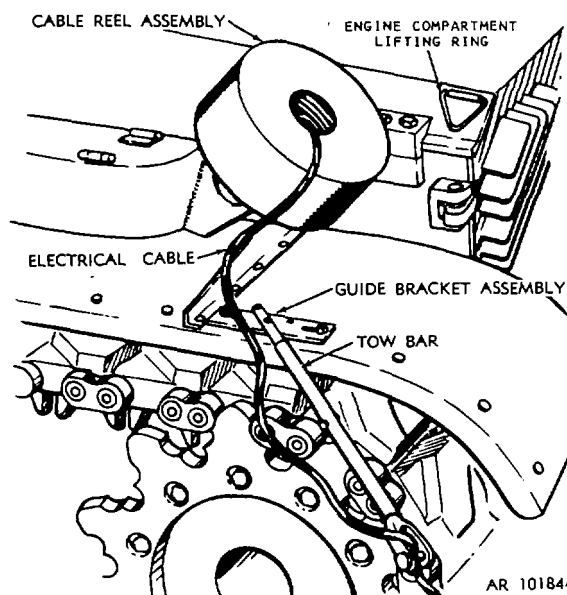

Figure 2-14. Left rear view of towing vehicle with guide bracket assembly attached.
f. Remove two conveniently located bolts and nuts from rear fender of towing vehicle and attach guide bracket assembly to fender and bolt down (fig. 2-14).
Installation of the cable reel on a typical tank is illustrated in figure 2-14. If cable reel does not fit properly on lifting eye, use Improvised shim such as a piece of wood to wedge reel in upright position. If cable reel does not fit properly on a tank lifting eye, use the engine compartment lifting ring.